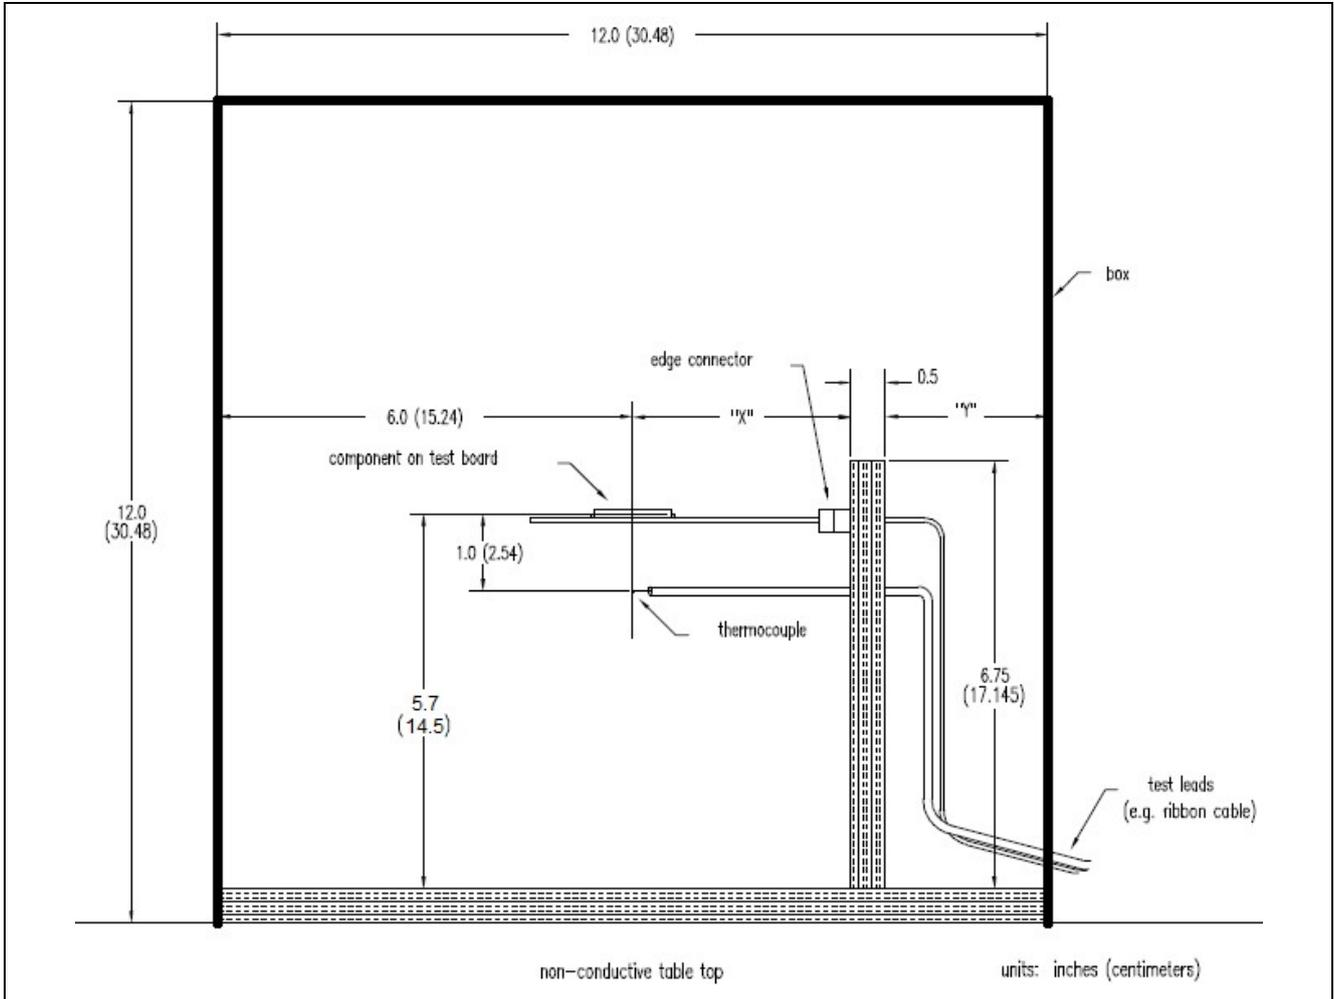
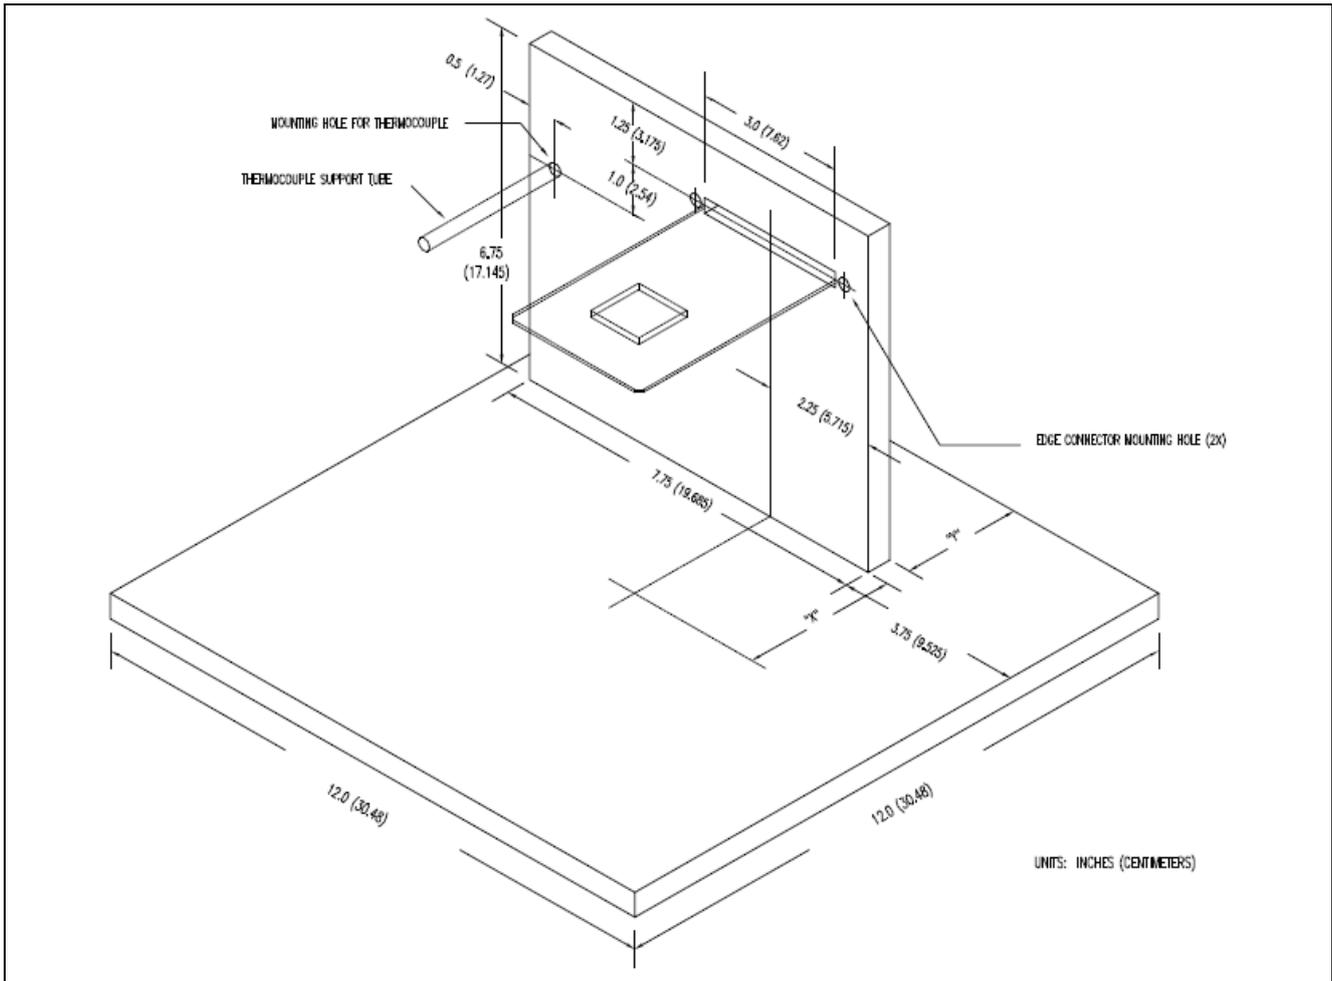

Figure 2-1 Ta measurement position (from the EIA/JEDEC 51-2 Standard)
Figure 2-2 T_a measurement position - bird's eye view (no chassis)
- Ta (ambient temperature): Ta is the temperature at a place that is not affected by heat sources and is based on measurement methods stipulated by JEDEC (Figure 2-1 and Figure 2-2). See the EIA/JEDEC Standard 51-2 for details. Also see the product and package information that Renesas provides on its website.